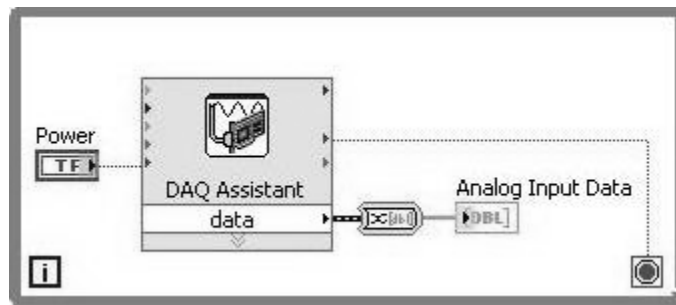

Figure 8-8. Triggered Analog Input Block Diagram
In the following steps, you build the block diagram shown in Figure 8-8.
11. Confirm that the block diagram is wired as shown in Figure 8-8.